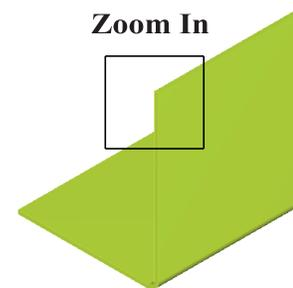

Fig. 30
Step 6. Zoom-in on the corner of the L-bracket. Use **F1** and make a selection window around the corner, **Fig. 30**.